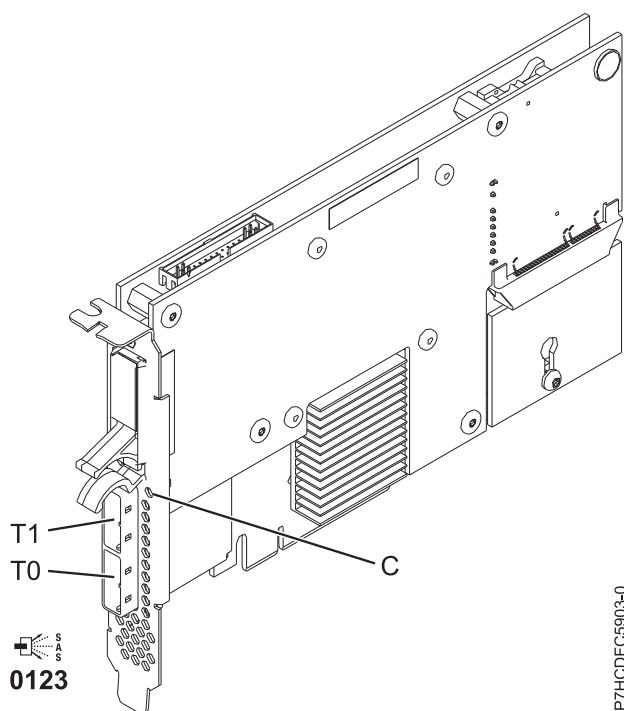

Figure 59. PCIe Dual - x4 3 Gb SAS RAID Adapter
The 5903 or 5805 contains a LED ((C) in Figure 59 on page 175) that flashes if the cache data is present. The cache-data present LED flashes when there is possible data in the cache on the adapter. If the cache data present LED is flashing, do not replace the cache battery pack. If replaced when the LED is flashing, the cache data is lost. See Figure 59 on page 175 to locate the cache-data present LED on this adapter.